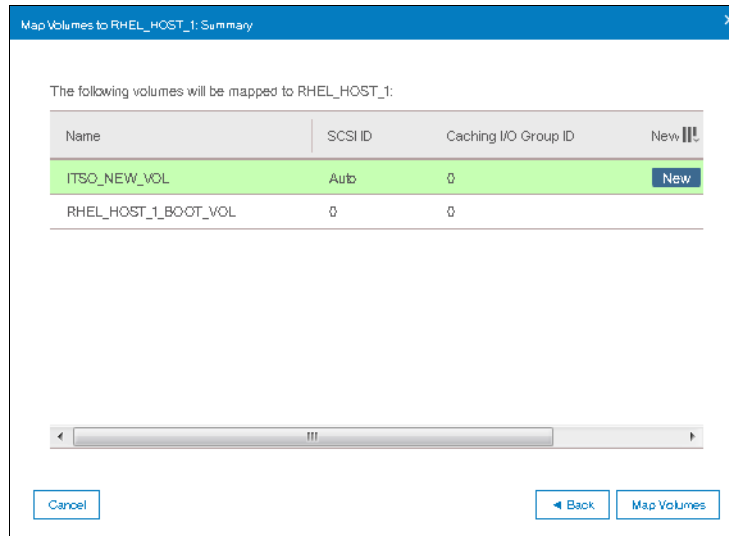

Figure 6-46 Map Volume summary
3. Click **Next**. You will be shown a summary window with the volume to be mapped along with already existing volumes mapped to the host as shown in Figure 6-46 on page 308.